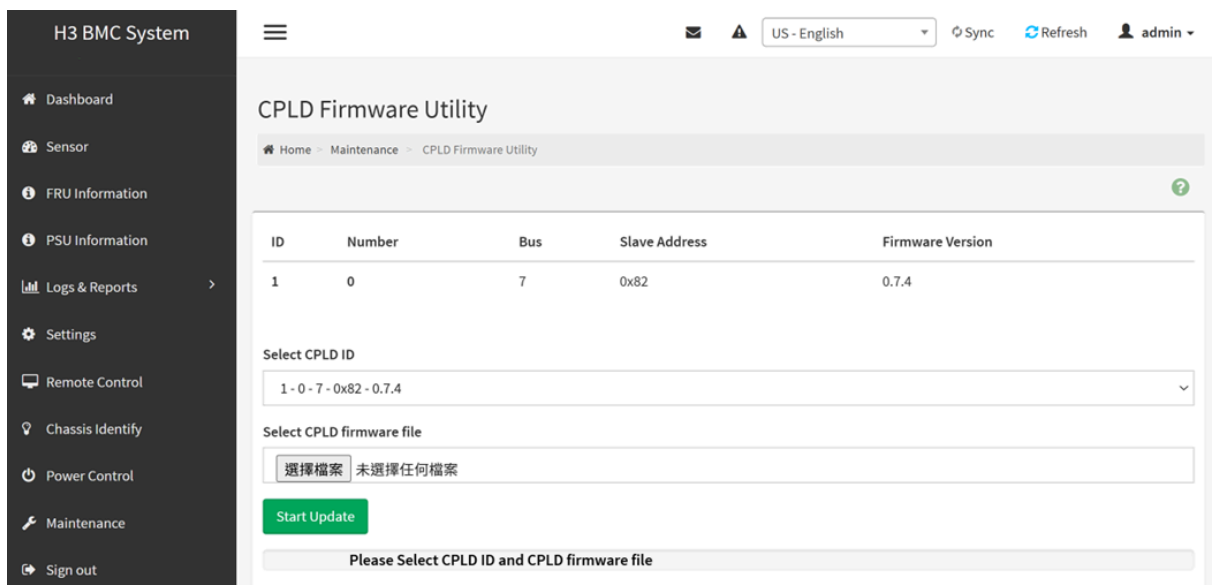

Figure 106. Selecting and starting the CPLD Firmware update.
- B. Click the Start Update button to initiate the update process (refer to Figure 106)